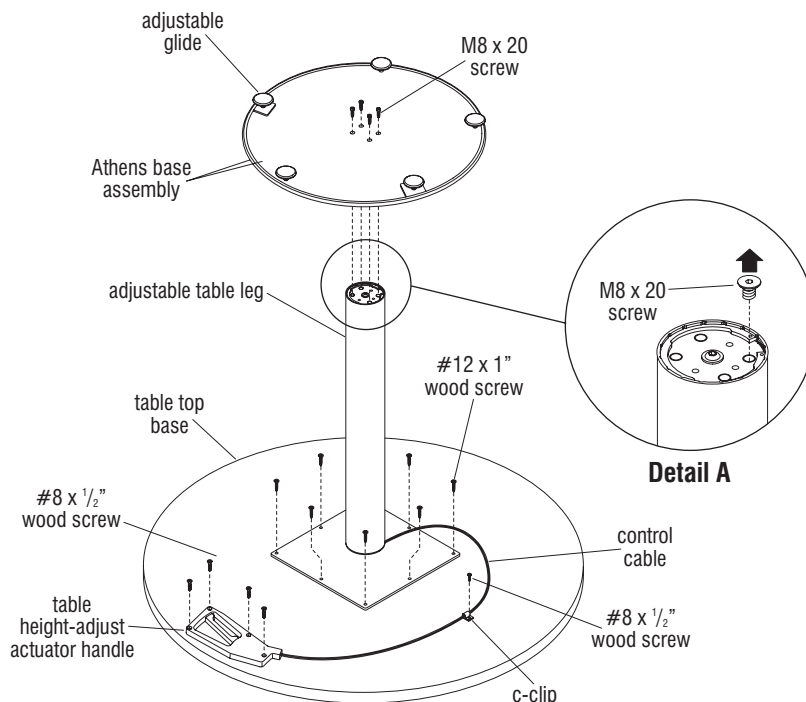

Figure 2
3. Place the table top upside down on a soft protective surface. Carefully turn the table leg assembly upside-down onto the top as shown with cable exiting tube opposite the pilot holes drilled in top for actuator handle. Align holes of the base to the pre-drilled holes in the table top. Secure table top base to top using eight #12 x 1" wood screws, taking care to not over-tighten the screws (Figure 2).
4. Loop the control cable and table height-adjust mechanism around the top to achieve a large arc at side where a pilot hole is drilled into the top for the c-clip. Position the actuator handle of the mechanism to face the outside of the table over pre-drilled mounting holes in top. Secure the mechanism to the top using four #8 x 1/2" wood screws supplied. Position the c-clip along the cable at the pre-drilled pilot hole in the top and secure using #8 x 1/2" wood screw (Figure 2).
6. Position the base assembly over the adjustable table leg. Align mounting holes in base with holes in table leg and secure with four M8 x 20 screws (Figure 2).